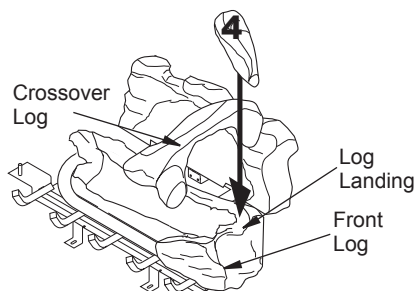

Figure 32 - Installing Log No. 4
4. Place log #4 (right log) onto log landing on right side of front log as shown in Figure 32.